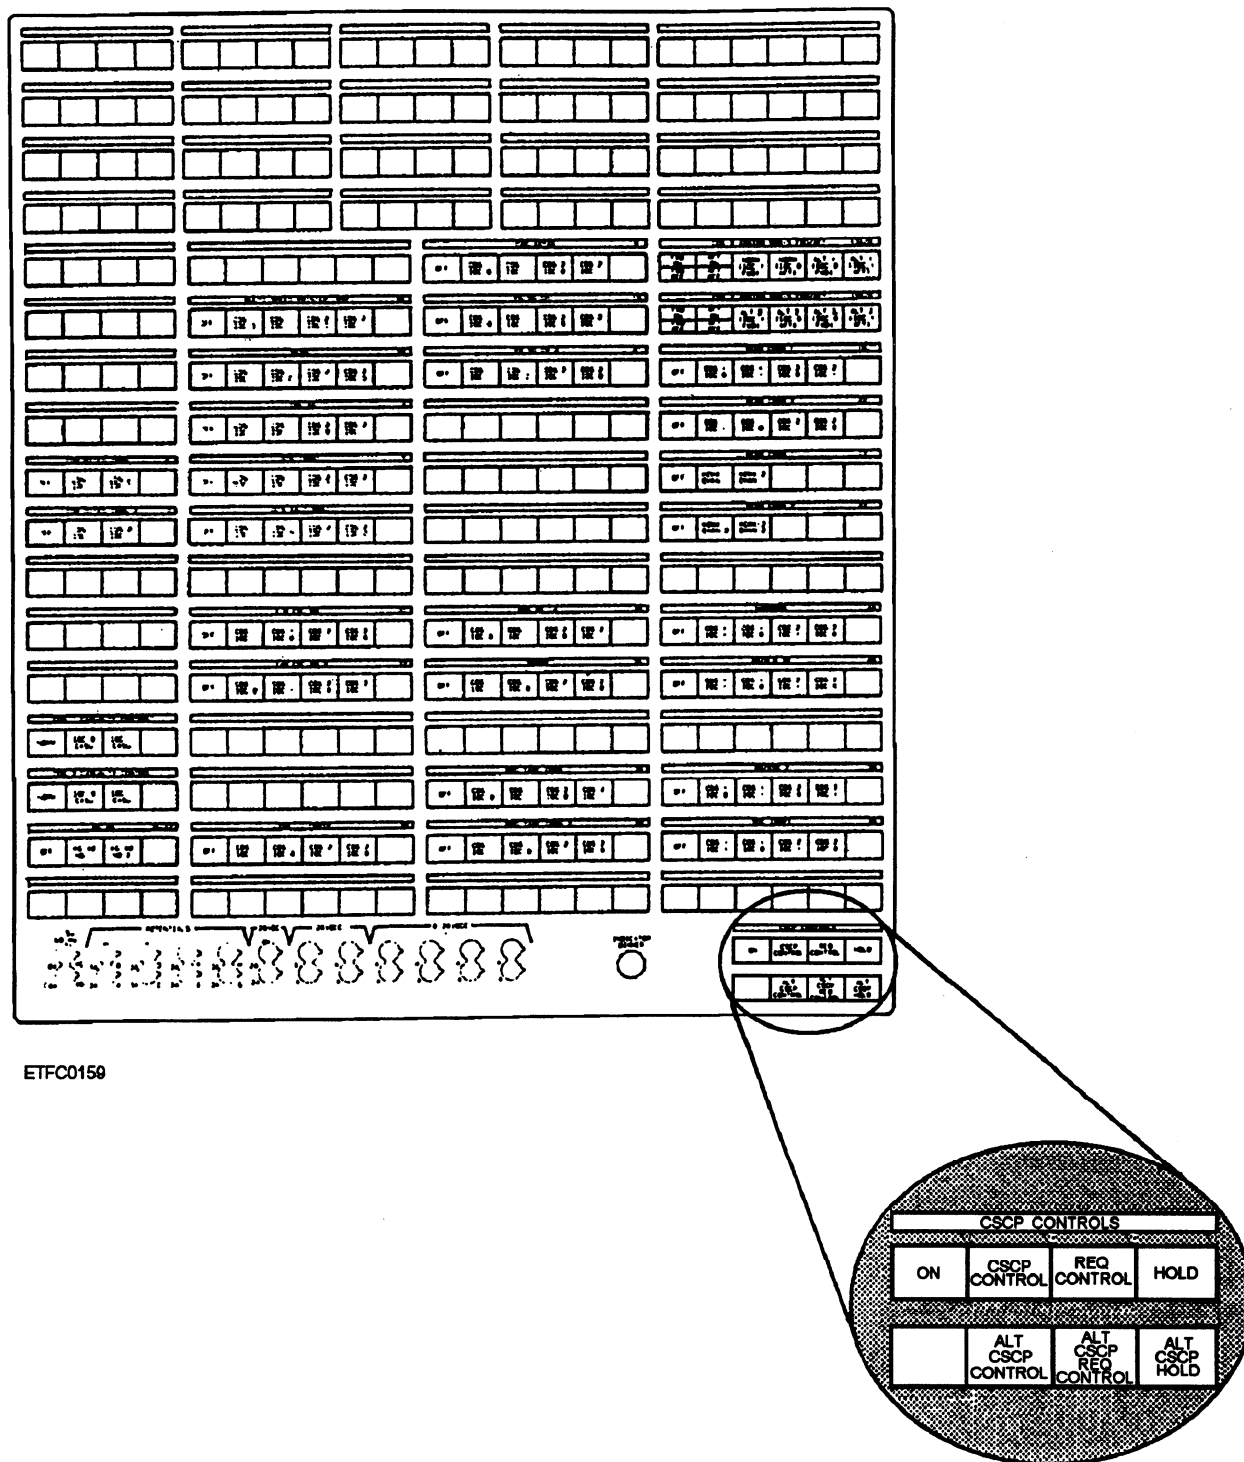

Figure 13-27.—CSCP controls and indicators.
front panel (figure 13-27). The CSCP will generate a control signal to the appropriate DFCS linear switch assembly, which will respond with a status signal when it is in the assigned position. The PBI will light when the switch is in the commanded position.
switch position is in the ON position. Red indicates the switch is in the OFF position. Green indicates the switch is in the NORMAL position, while yellow indicates the switch is in the ALTERNATE position. Figure 13-27 shows an example of a typical CSCP configuration. The number and functional assignment of PBIs vary from ship to ship.
The PBIs in the lower right corner of the CSCP front panel shown in figure 13-27 are used to apply power to the CSCP PBIs (ON), to indicate current CSCP control status (CSCP CONTROL or ALT CSCP CONTROL), and to transfer control from the controlling CSCP to the alternate CSCP (REQ CONTROL, HOLD, ACT CSCP REQ CONTROL, and ALT CSCP HOLD). Manual PBI actions are required at both CSCPs to transfer control between panels.